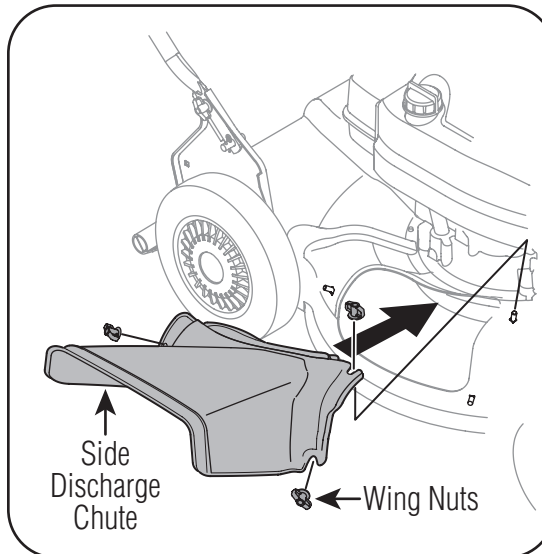

Figure 3-6
- b. Attach side discharge chute to unit and secure with the three wing nuts. See Figure 3-6.